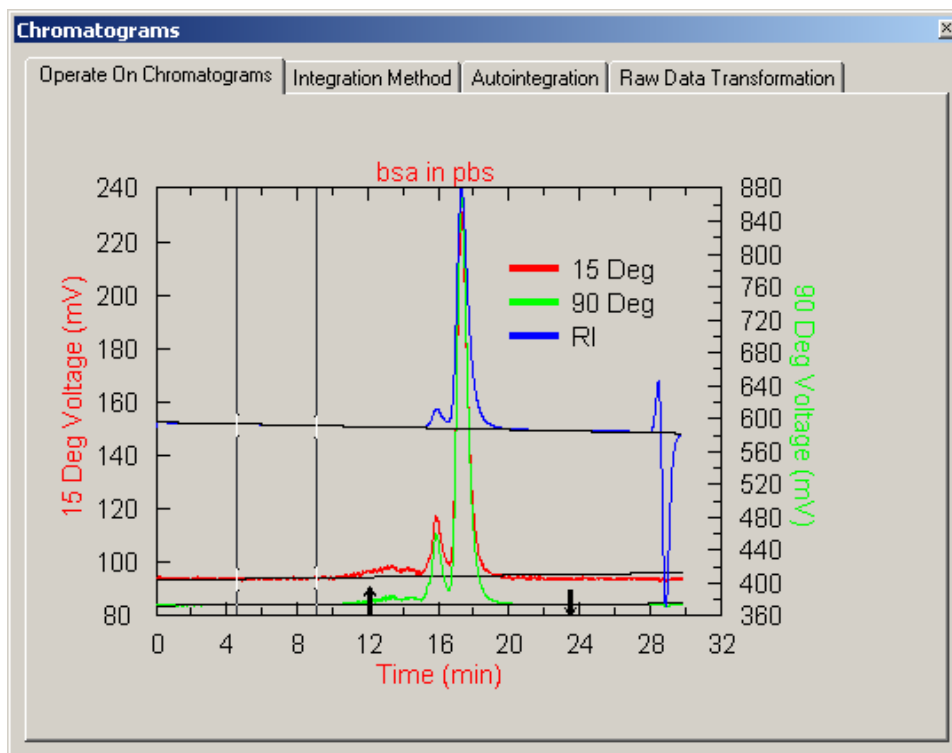

Figure 5-9: Chromatogram with Baseline Markers
- b) Select the desired *Baseline Type* and indicate the detectors for which the baseline should be subtracted. After you click **OK**, a pair of vertical lines may appear on the chromatogram if the chromatogram was processed previously (Figure 5-9).
The *Set Integration Region* start and finish are indicated by up and down arrows on the chromatogram (e.g. at 12.0 and 23.5 min on Figure 5-9). These can be moved in the same manner as the baseline markers by holding the **Ctrl** button down and dragging the up and or the down arrows on the chromatogram using the left mouse button. If the integration region has not been previously selected (as would be the case for a unprocessed data file), the start and stop positions are determined by selecting integration and then dragging the left mouse from the start to the stop positions